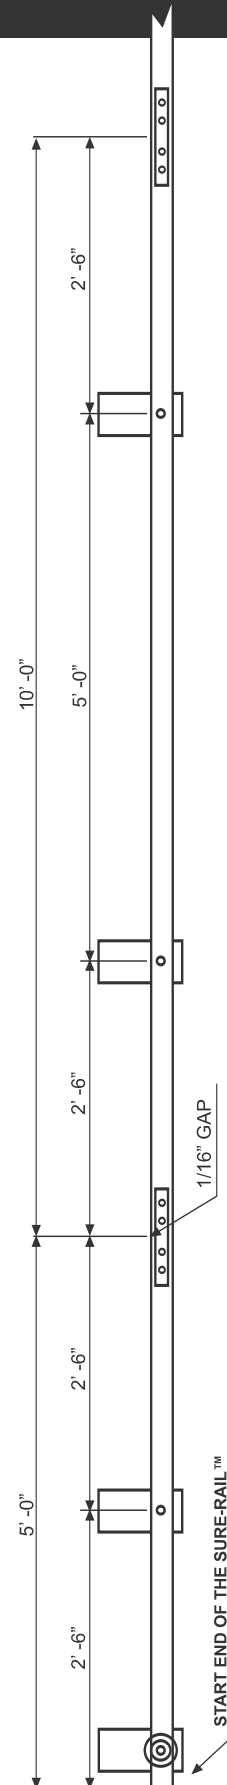

FIGURE 1.1.
6. **The rail must be installed such that there are two (2) support connections at each piece.** This may require the first length installed to be modified. See figure 1.1.